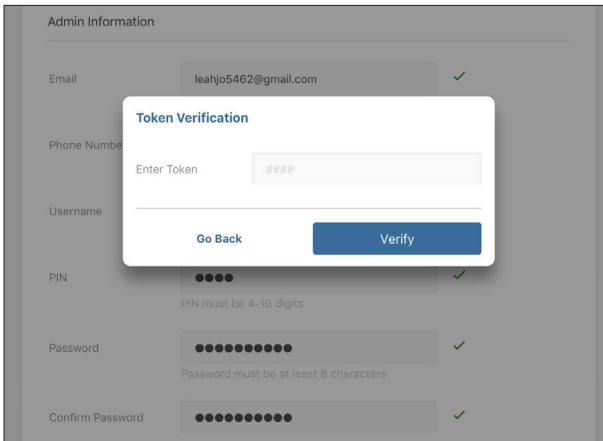

**Figure 9 Connect Mobile Phone screen**
6. Enter a mobile phone number in the Connect Mobile Phone dialog window (Figure 9).